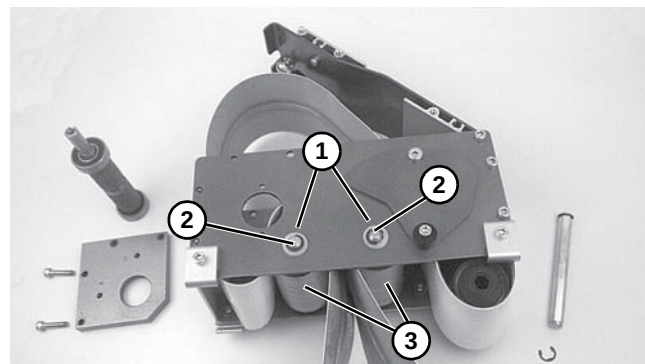

Figure 49
- For 2” (44 mm), 3” (70 mm) or 4” (95 mm) wide conveyor, detach E-ring clips and remove washers (**Figure 49, item 1**). Remove pulley shafts (**Figure 49, item 2**) and pulleys (**Figure 49, item 3**).